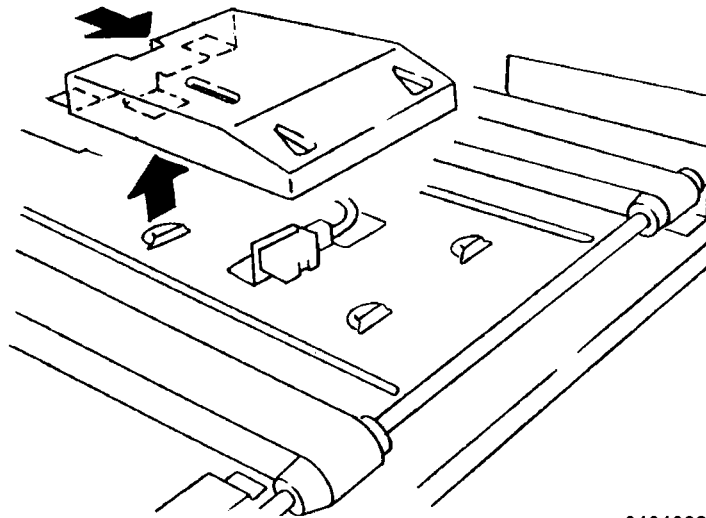

Figure 1 Removing the Cover
4. Remove the Cover (Figure 1).
- a. Push up the hook (2).